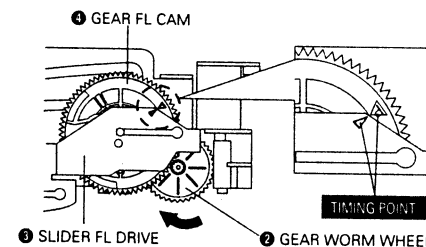

Fig. 2-12
- 3) Turn the gear worm wheel ② clockwise so that "Timing Point" of the slider FL drive ③ and gear FL cam ④ can be aligned (See Fig. 2-12)